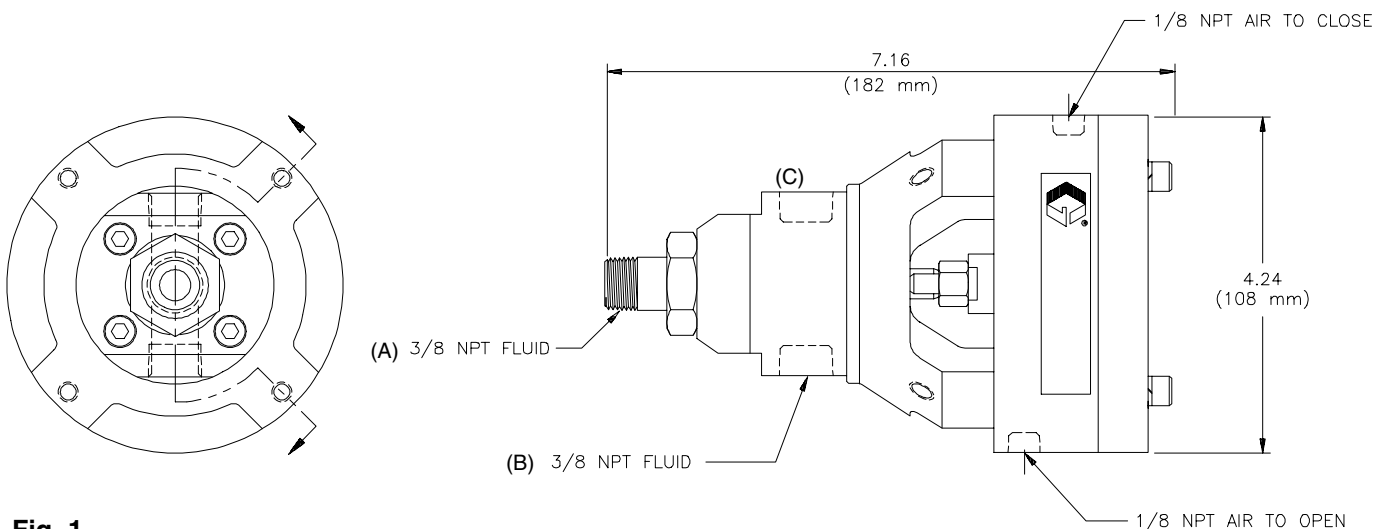

Fig. 1
Fig. 1. The valve has three fluid ports one at the valve tip (A), and two ports at opposing sides (B and C). Use any of the ports as either a fluid inlet or outlet, according to the orientation required for the application, but tip port (A) must be one of the ports used. Using the tip port (A) as the fluid outlet, if possible, is recommended.